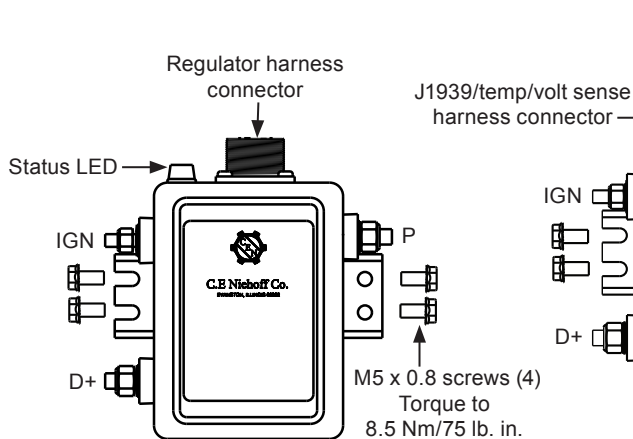

Figure 9: Conventional Series Regulator Connections
3. Plug alternator-to-regulator harness into receptacle on regulator. See Figures 9 and 10 for receptacle location.
- Regulator **IGN terminal** (required) must receive voltage from vehicle DC ignition source, multiplex, or F wire if retrofit from competitor's system (see page 2) in order to energize regulator. Torque to 4.5 Nm/40 lb. in. See Figures 9 and 10.
- Regulator **D+ terminal** (if required) provides DC system battery voltage to vehicle (5A maximum) for charge indicator lamp, relay, or multiplex while alternator is producing output. Torque terminal hardware to 4.5 Nm/40 lb. in. See Figures 9 and 10.
- Regulator **P/AC terminal** (if required) taps AC voltage from alternator, typically half the charge voltage (3A maximum). P/AC terminal provides alternator RPM frequency at 10:1 ratio for use with tachometer. Torque terminal hardware to 4.5 Nm/40 lb. in. See Figures 9 and 10.
5. If using a J1939/temperature-voltage sense harness, plug J1939 harness into J1939 receptacle on regulator. See Figures 9 and 10 for receptacle location. Refer to installation instructions included with harness for more information. Harness sold separately².